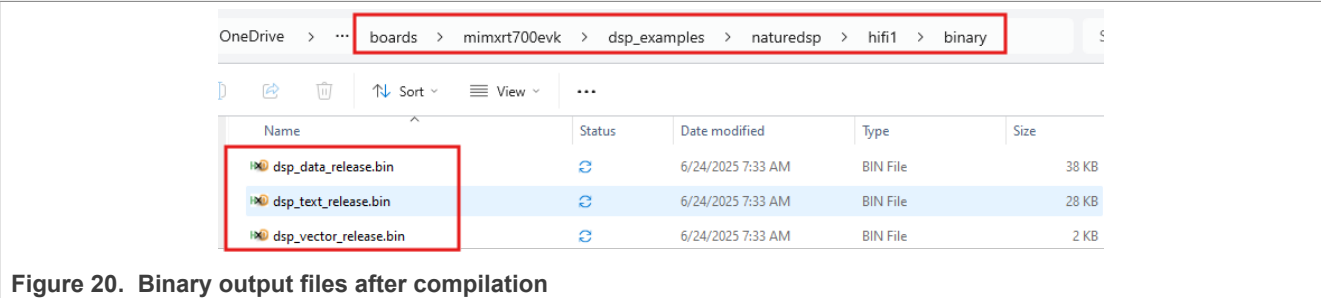

Figure 20. Binary output files after compilation
- After compiling with the provided linker file, three binaries are generated in the `dsp_naturedsp_hifi1` project folder, as shown in Figure 20. To ensure that both data and test sections are placed in SRAM